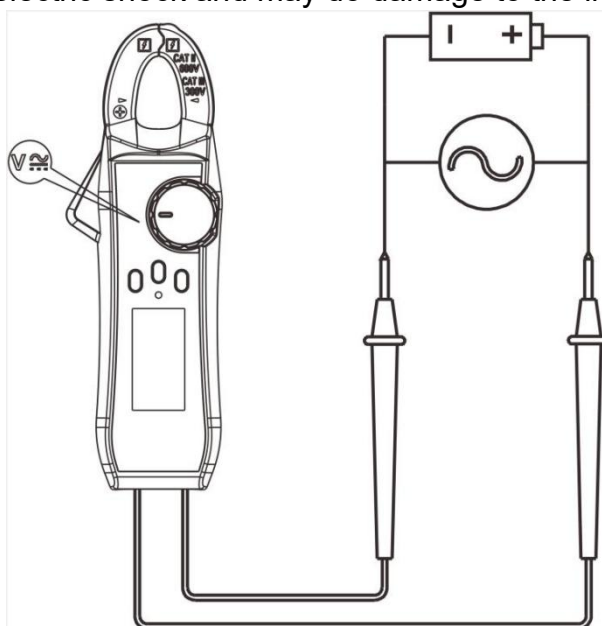

Figure 3
- Get the red and black probes to contact tested parts, such as power outlets, etc. (Figure 3).